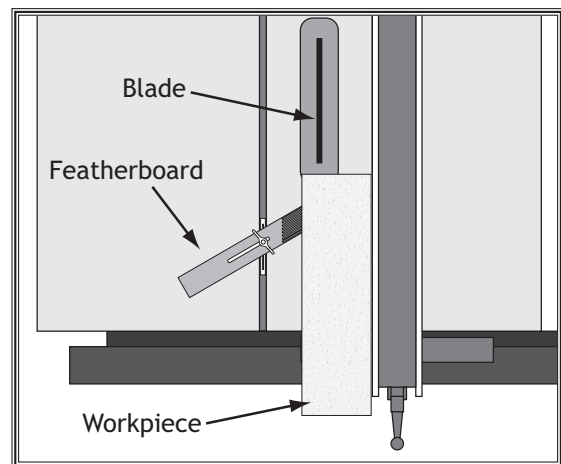

Figure 75. Featherboard installed in miter slot and supporting workpiece for ripping cut.
3. Slide the featherboard miter bar into the miter slot, making sure the fingers slant toward the blade, as shown in **Figure 75**.